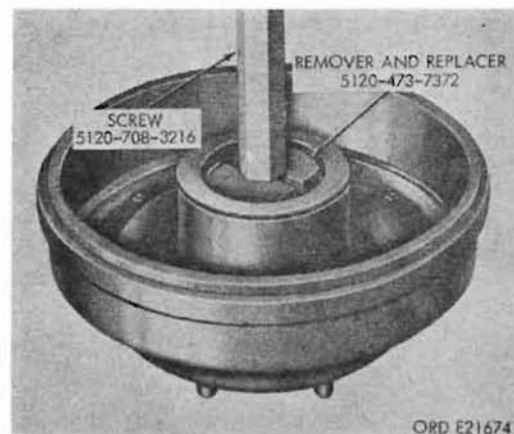

Figure 230. Inner bearing cup installation using remover and replacer 5120-473-7372 and screw 5120-708-3216
- (2) Remove the bearing cups (fig. 230).
- (1) Install bearing cups (fig. 230). Position the bearing cup in hub, and install the remover and replacer 5120-473-7372 and 5120-708-3216 in the bearing cup. Drive the bearing cup into place. Turn the hub and the drum assembly over, and install the other bearing cup in the hub in the same manner.
- (2) Install bearing cones. Install the inner bearing cone on the shaft. Coat the inner bearing cone cage and fill the space between the cone and the oil seal with the bearing lubricant. Install the hub and the drum assembly (b(2) above).